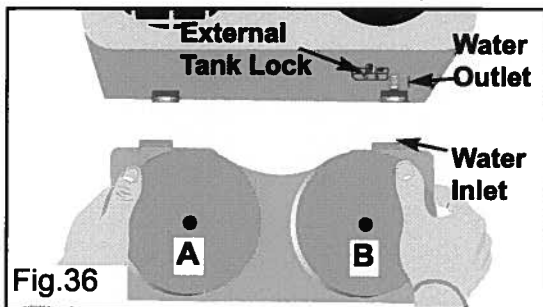

Fig.36
2. Position the external water tank, making sure the inlet on the water tank is aligned with water outlet at the back of the cabinet. See Fig 36.
<ul style="list-style-type: none">• Always empty the external water tank before attempting to move or re-locate the unit to another location.• In order to avoid spillage when emptying the external water tank, remove cover "A" (as identified in fig. 36) and carefully tilt the uncovered portion of the external tank towards the sink.